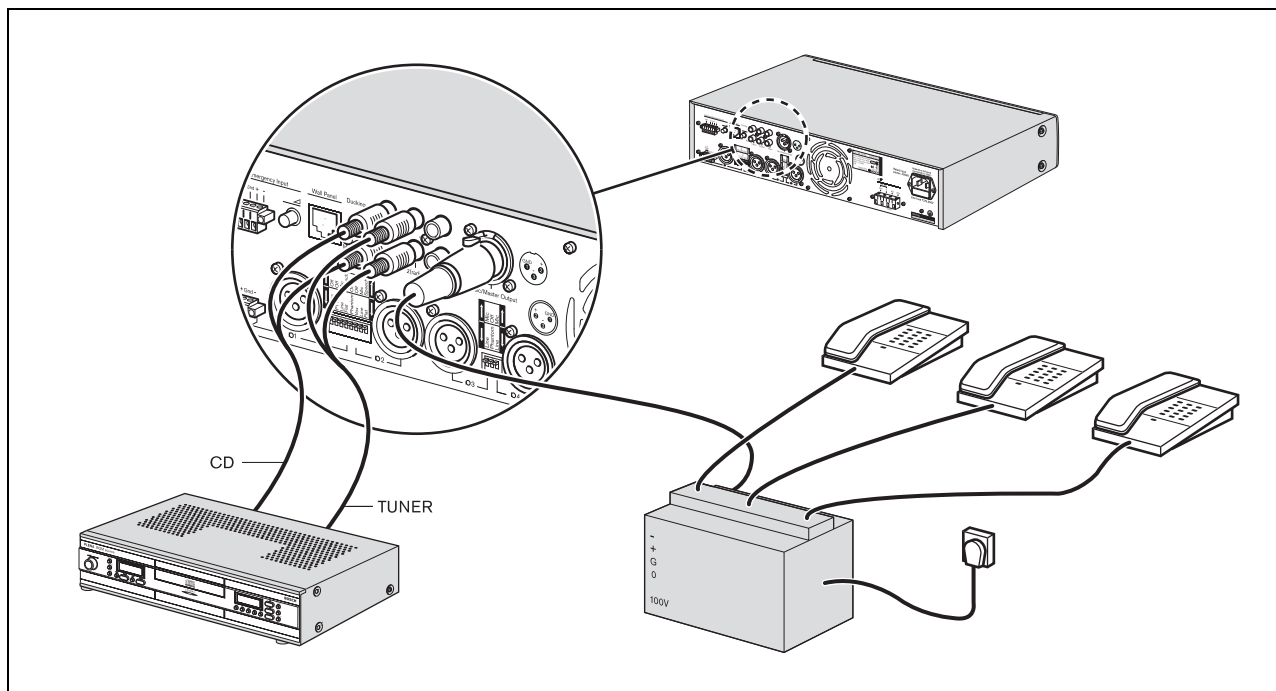

figure 4.8: Connecting music source inputs
Use the music output connector (8) to provide a dedicated music out source for another device. For example, the music master output can be connected to a telephone coupler, so that callers can listen to music when they are put on hold (see figure 4.8).